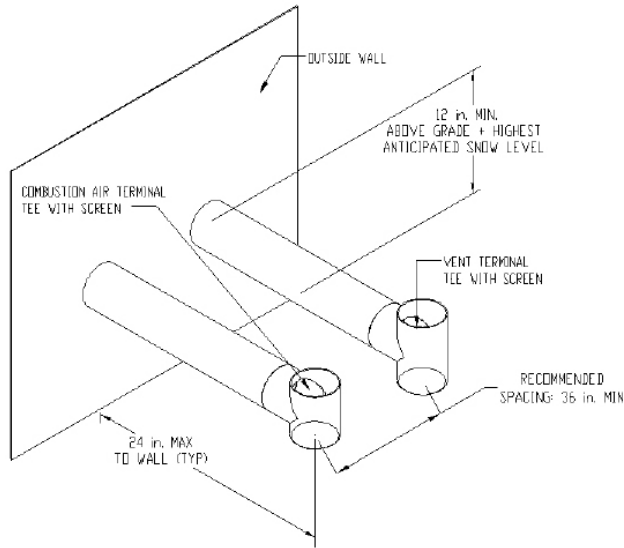

Figure 7: Sidewall Terminations
- i. Horizontal Sidewall Venting: Use coupling for vent and 90° elbow pointed down for combustion air as shown in Figure 7. If using room air for combustion, use 90° elbow or tee for vent.